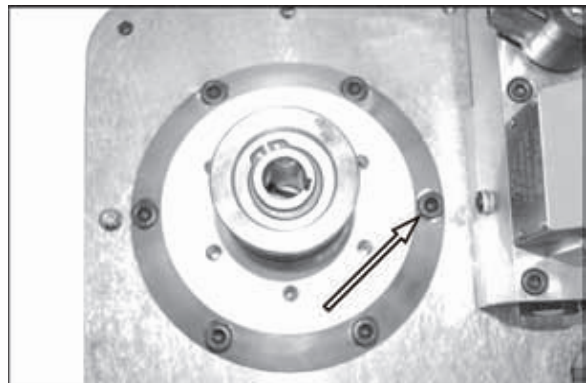

Figure 73.
4. See Figure 73. Remove the six adapter bolts and the adapter.